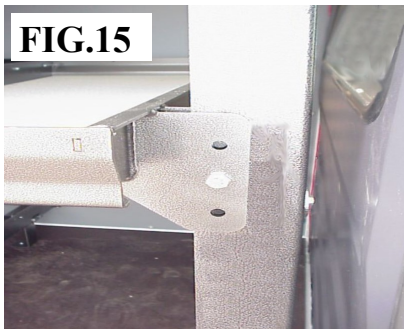

FIG.15
6.15 Set in the top deck and install the front pivot bolts.(FIG.15)